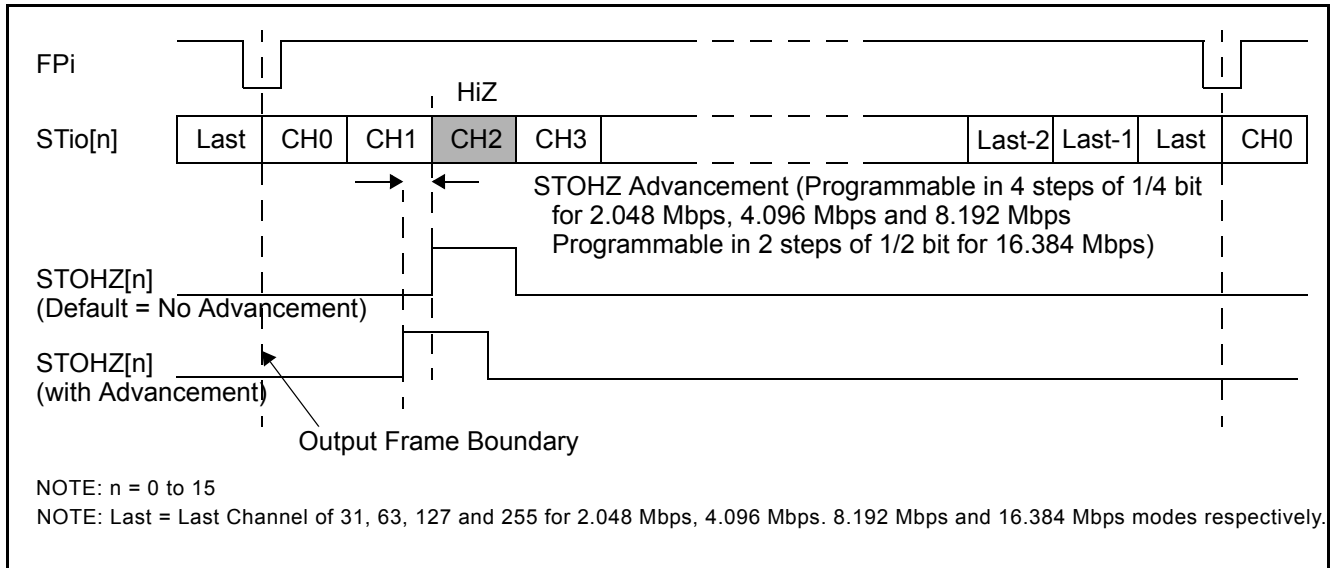

Figure 18 - Channel Switching External High Impedance Control Timing
There are 16 external high impedance control signals, STOHZ0 - 15, that are used to control the external drivers for per-channel high impedance operations. Only the first sixteen ST-BUS/GCI-Bus (STio0 - 15) outputs are provided with corresponding STOHZ signals. The STOHZ outputs deliver the appropriate number of control timeslot channels based on the output stream data rate. Each control timeslot lasts for one channel time. When the ODE pin is high and the OSB (bit 2) of the Control Register (CR) is also high, STOHZ0 - 15 are enabled. When the ODE pin, OSB (bit 2) of the Control Register (CR) or the RESET pin is low, STOHZ0 - 15 are driven high, together with all the ST-BUS/GCI-Bus outputs being tristated. Under normal operation, the corresponding STOHZ outputs of any unused ST-BUS/GCI-Bus channel (high impedance) are driven high. Refer to Figure 18 on page 32.